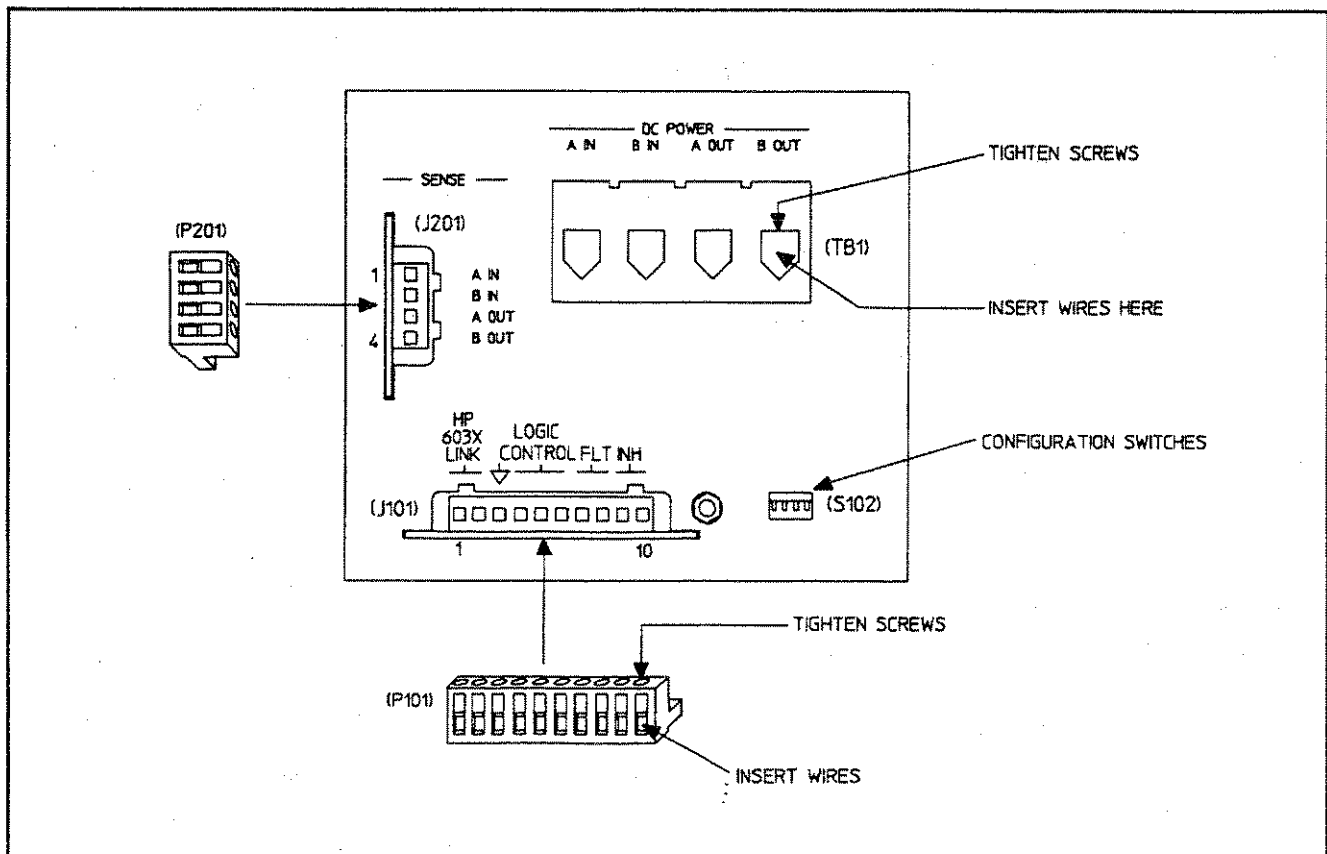

Figure 3-1. HP 59510A/59511A Front Panel Connections
Figure 3-1 illustrates the front panel of the HP 5951XA where connections and switch selections are made.
terminals on the DC POWER barrier block TB1 as specified above. Each wire is inserted into the appropriate terminal and the corresponding screw is tightened until the wire is securely fastened (see Figure 3-1).
The sense wires are connected to the pins of the SENSE connector mating plug P201 as specified above. Each wire is inserted into the appropriate pin and the corresponding screw is tightened until the wire is securely fastened (see Figure 3-1). The plug is then installed in the SENSE connector (J201).
3-9 CONFIG Switches. These switches (S102-1 to S102-4) are located on the rear panel of the HP 5951XA as shown in Figure 3-1. In order to program the HP 603XA/5951XA configuration, switches S102-3 and S102-4 must select address 0, and switch S102-2 must be set to the HP 603X LINK position ("1").
The remote inhibit ($\overline{\text{INH}}$) input (J101-9 and 10) and the fault (FLT) output (J101-7 and 8) on the Relay Accessory (see Figure 3-1) are used in place of the $\overline{\text{INH}}$ input and FLT output on the HP 603XA power supply in a HP 603XA/5951XA configuration. The FLT line provides the user with a means of knowing the status of any unmasked fault register bit, independently of the service request (SRQ) function available through the HP-IB. The $\overline{\text{INH}}$ line controls the remote inhibit (RI) bit in the power supply's fault register and provides a way to disconnect the power supply output from the load. The fault registers are described in detail in the applicable HP 603XA Operating and Service Manual (see paragraph 1-1). Both $\overline{\text{INH}}$ and FLT are negative true, i.e., they are active when they are low levels. Pins 8 and 10 are the commons for the FLT and $\overline{\text{INH}}$ signals, respectively. Both FLT and $\overline{\text{INH}}$ may be floated relative to ground and to each other. Refer to Table 1-1 for details.